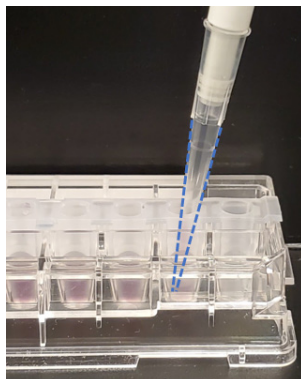

Figure 6. The pipette tip (outlined in blue) is inserted to the bottom of each well to dispense cell suspension.
- 8 Pipette 30  $\mu\text{L}$  or 50  $\mu\text{L}$  of cell suspension to wells B through G for XF HS or XFp PDL miniplates, respectively, using a single channel pipettor. The pipette tip must be placed at the bottom of the well and in the inner ring element of the wells on the XF HS PDL miniplate, to dispense properly (**Figure 6**). **Do not** add cells to wells A and H.